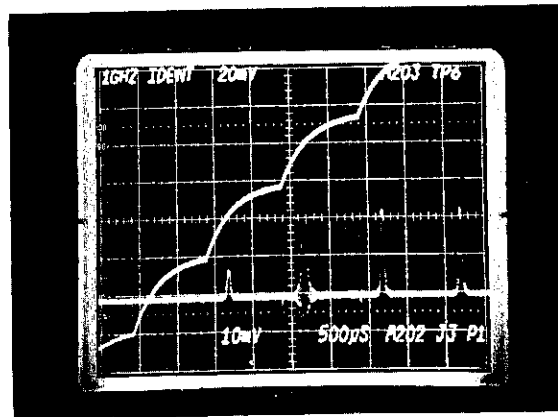

FIGURE 6-3
(2) Ground A203TP1.
(3) Apply a signal of approximately 1.1 GHz at -15 dBm to Band III input.
(4) Depress RESET switch.
(5) With no DC offset applied, adjust Channel B vertical sensitivity so each ramp step is two vertical divisions (approximately 10 mV/div). Set Channel A to 20 mV/div. Set time base to 5 ms/cm and set time base multiplier to X10. Oscilloscope display should appear as shown in Figure 6-3.